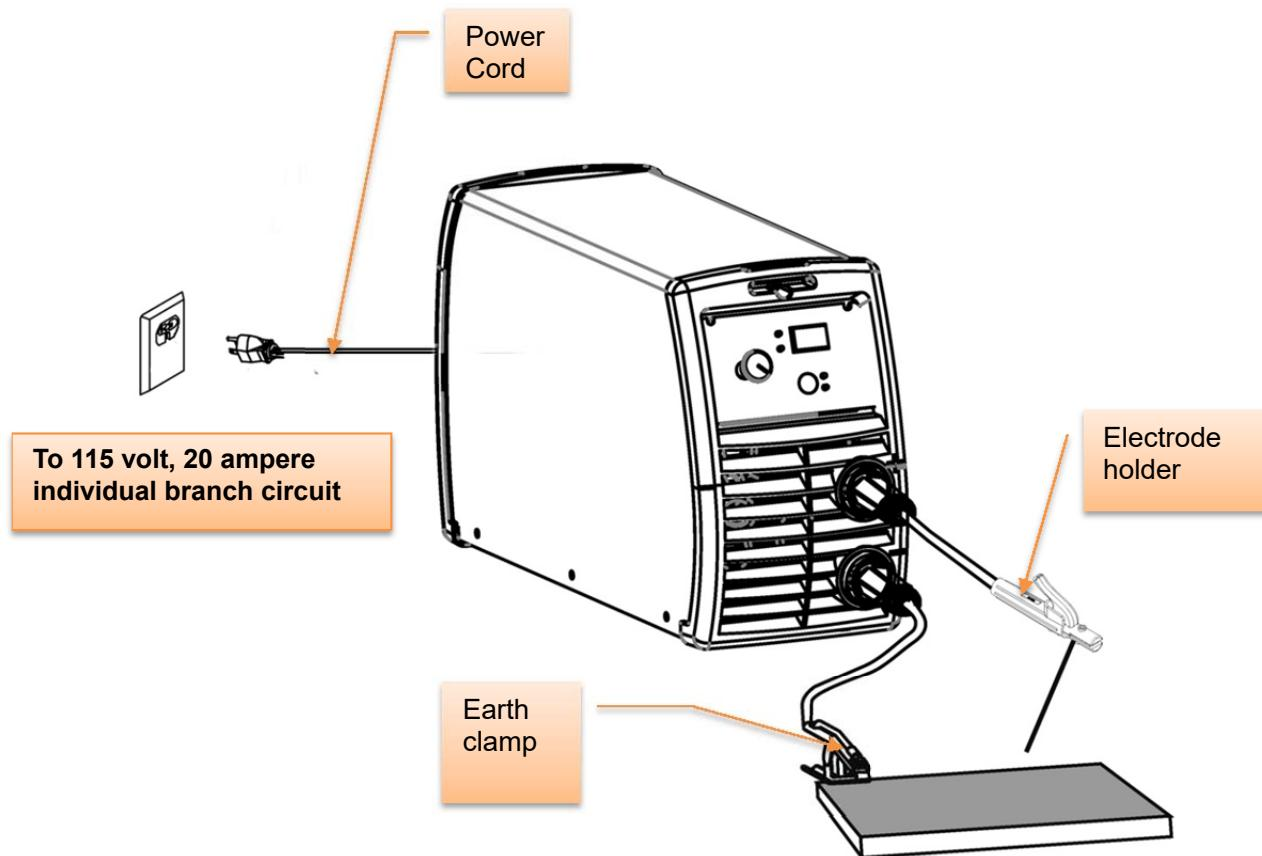

Figure 4.1
- 4-2.4.Connect the gas line/hose to the proper shielding gas source. Refer to Figure 4.1 and 4.2).